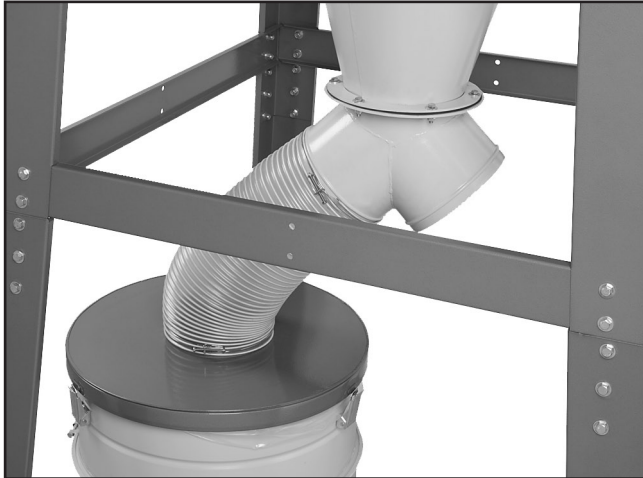

Figure 38. Dust collection drum assemblies connected to funnel port.
10. Connect the dust collection drum assemblies to the funnel port with the 9" flexible ducts and 9" duct clamps (see **Figure 38**).